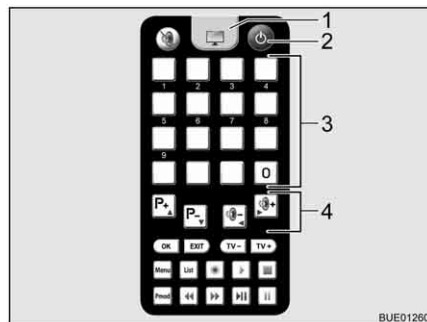

Fig. 38 Remote control
- Press the key "⏻" (Fig. 38,2) on the remote control.
- Use the memory buttons (Fig. 38,3) or the function buttons (Fig. 38,4) to set the required transmitter.